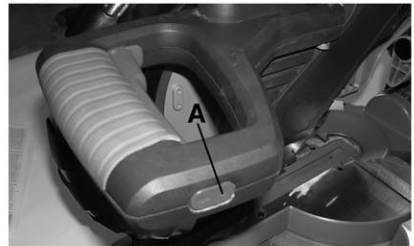

Figure 15
The twin laser guide system is controlled by the laser guide switch (A) Fig.15 and will only turn on when the miter saw is plugged into a power source.